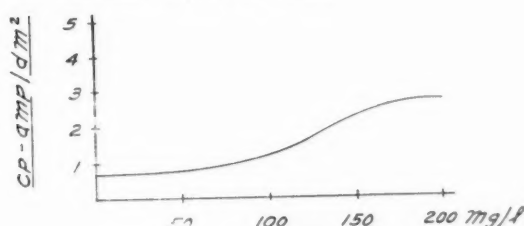

Fig. 10. Molybdenum
c. 1. The curve in Fig. 10 shows that the CP of the chromium bath increases slowly up to 90 mg./l., and much more rapidly after that.